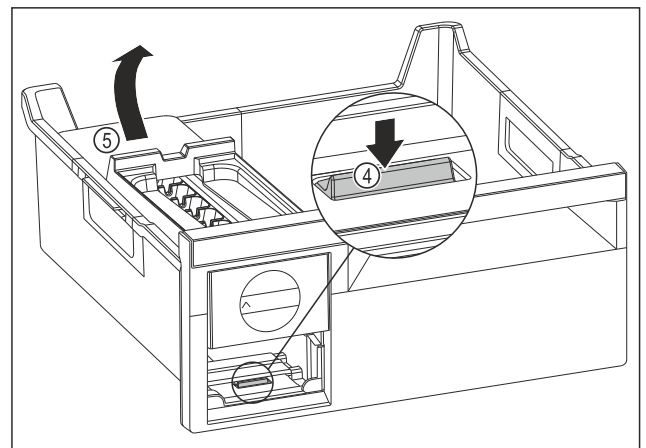

Fig. 88
- ▶ Removing the EasyTwist-Ice body: Use your finger to push the tab Fig. 88 (4) down and use your other hand to lift the EasyTwist-Ice body Fig. 88 (5) from behind at the same time.